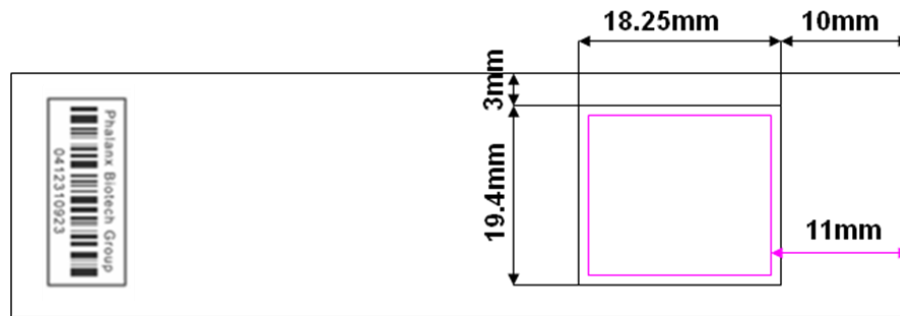

Figure 4: Mouse & Rat miRNA OneArray[®] Microarray Glass Slide with “Probe Printed Region Guide” Plastic Underlay. (One array per slide)
- 10) Place the Mouse & Rat miRNA OneArray[®] slide, bar code up, atop the “Probe Printed Region Guide” (included, see Figure 4).